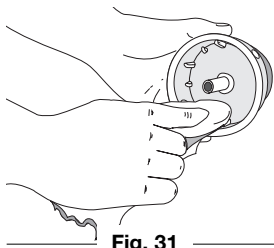

Fig. 31
4. Use a clean cloth to clean the the inner reel, spring, shaft and inner surface of the outer spool (Fig. 31).